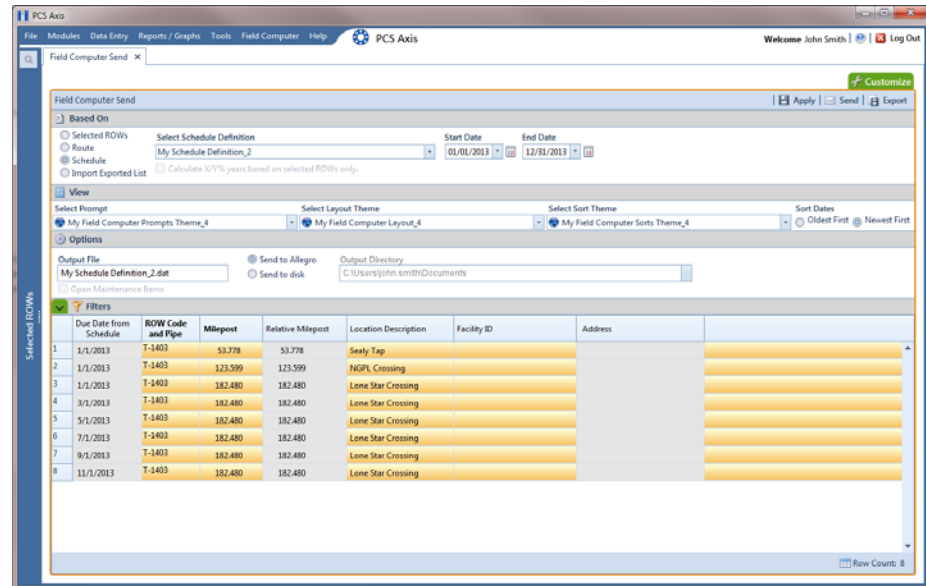

Figure 13-25. Field Computer Send Based on Schedule
- c To set a schedule date range using dynamic start and end dates, follow these steps (Figure 13-25, page 545):